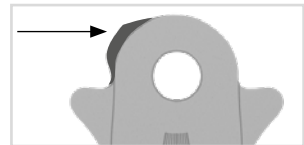
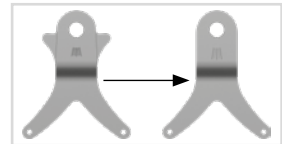

fig. 30
fig. 32
If you do not need the conversion options, you can completely file off the noses along the vertical line (fig. 32).
- 1 File along the laser line on the system stirrup (fig. 30).
- 1 File along the laser line on the system stirrup of the **NEURO CLASSIC-SWING** (fig. 30). On the system stirrup of the **NEURO SWING-CLASSIC**, you can completely file off the noses along the vertical laser lines (fig. 32). However, this is meant only for visual purposes – the function is also given without filing off the noses.